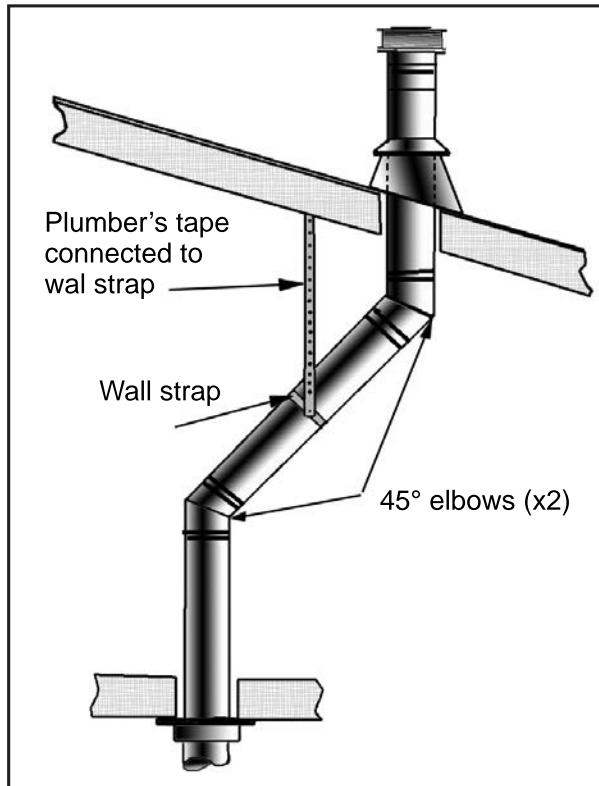
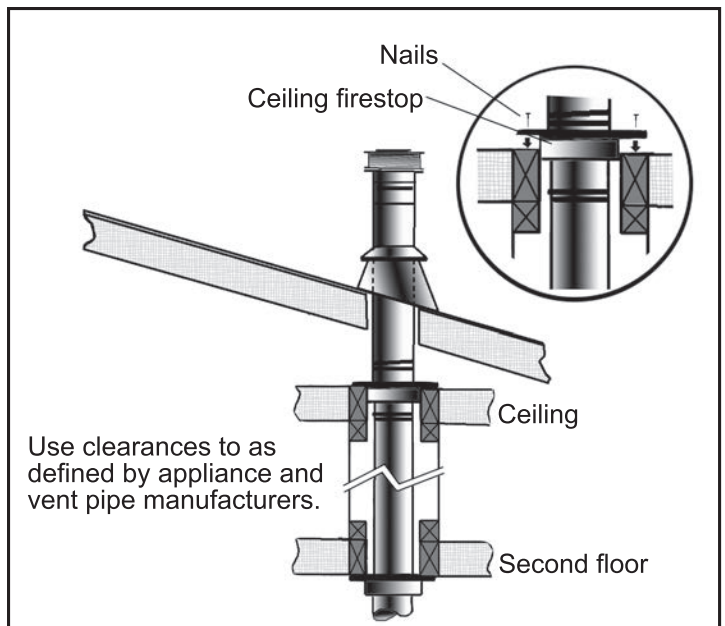

Figure 32: Use of Wall Straps.
Figure 33: Multi-Story Vent Pipe Installation.
- (1) If an offset is necessary in the attic to avoid obstructions, it is important to support the vent pipe every 3 feet (914 mm), to avoid excessive stress on the elbows, and possible separation. Wall straps are available for this purpose (see Figure 32).
- (2) When ever possible, use 45° degree elbows instead of 90° degree elbows. The 45° degree elbow offers less restriction to the flow of flue gases and intake air.
- (3) For multi story installations; a ceiling firestop is required at the second floor, and any subsequent floors (see Figure 33). The opening should be framed to 10" (254 mm) x 10" (254 mm) inside dimensions, in the same manner as shown in Figure 23.